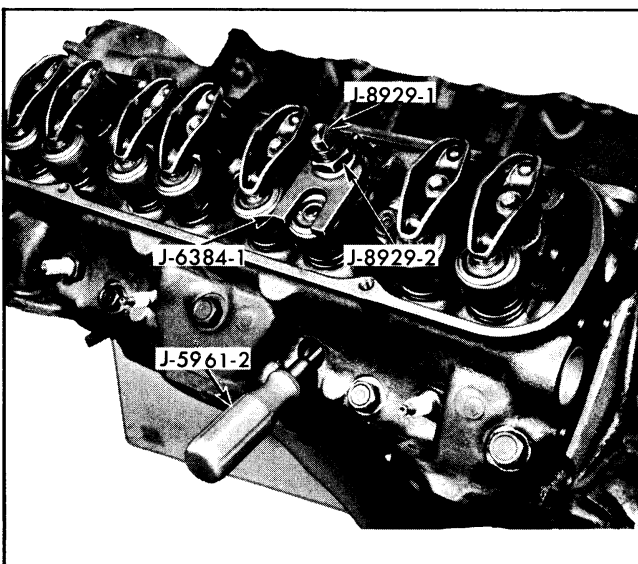

Fig. 6-23 Valve Spring Compressed
3. After removing rocker arm, thread valve spring compressor stud J-8929-1 on rocker arm stud and compress valve spring using compressor J-6384-1 and nut J-8929-2 while holding valve up with valve holder J-5961-2 (Fig. 6-23). Remove valve spring retainer cup locks and then remove valve spring compressor, valve spring retainer cup shield and valve stem seal.